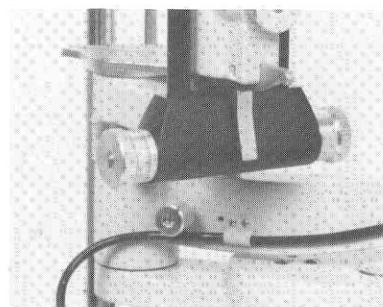

Fig. 33
- (5) Adjust the slit width.
Rotate one of the two slit width adjusting wheels^⑳ which will produce continuously variable changes in the width of the slit image, from 0 to 9mm. At 9mm, however, the slit will simply become a circular patch of light. (See Fig. 33)